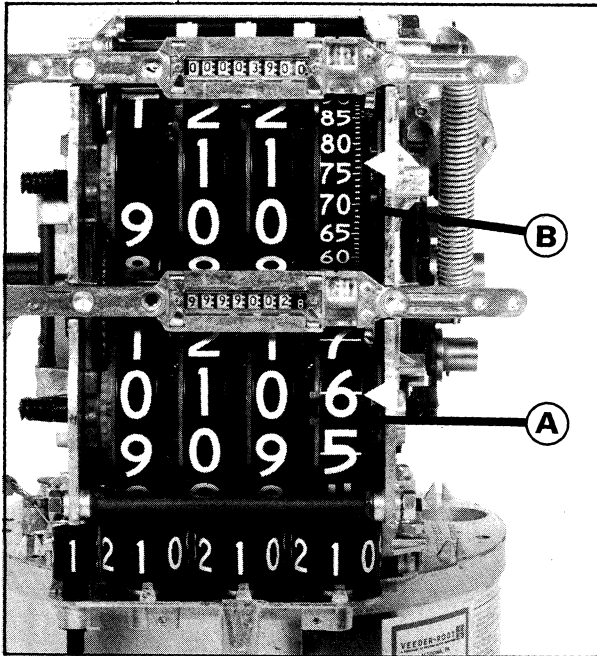

Figure 49.
4. One or More Wheels in Same Bank do not Always Reset to Zero (Figure 49).